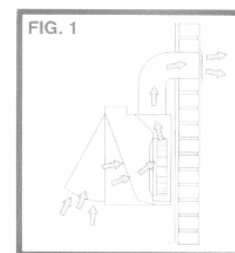

FIG. 1
1. Extraction Via Ducting (fig.1)
The very best method of cleaning the kitchen of unwanted odors is by connecting the appliance to an exhaust duct and venting to the outside atmosphere via exterior wall (suitable ducting kits may be purchased from the store where you buy your extractor.) Ducting your extractor negates the need for charcoal filters.(Fig.1)